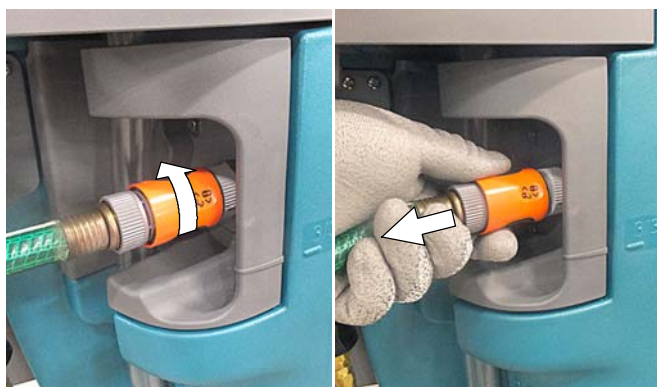

FIG. 25
6. Turn collar on coupler counter-clockwise to unlock connection. Then simply pull back on coupler to disconnect hose from machine (Figure 25).